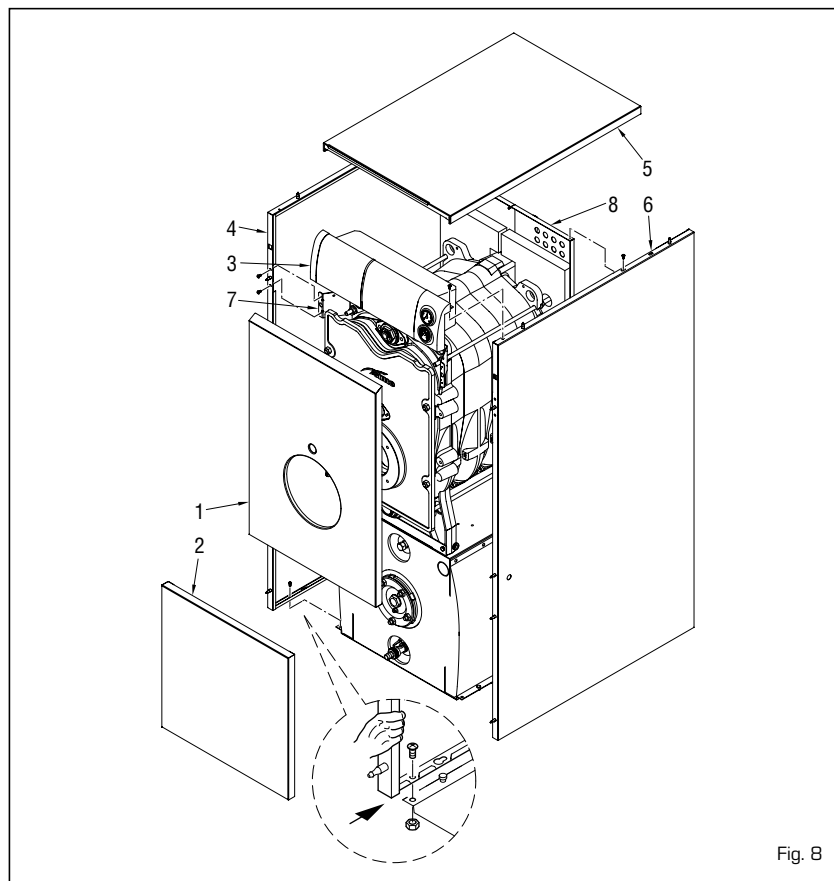

Fig. 8
3.3.3 Dismantling the skirt (fig. 8)